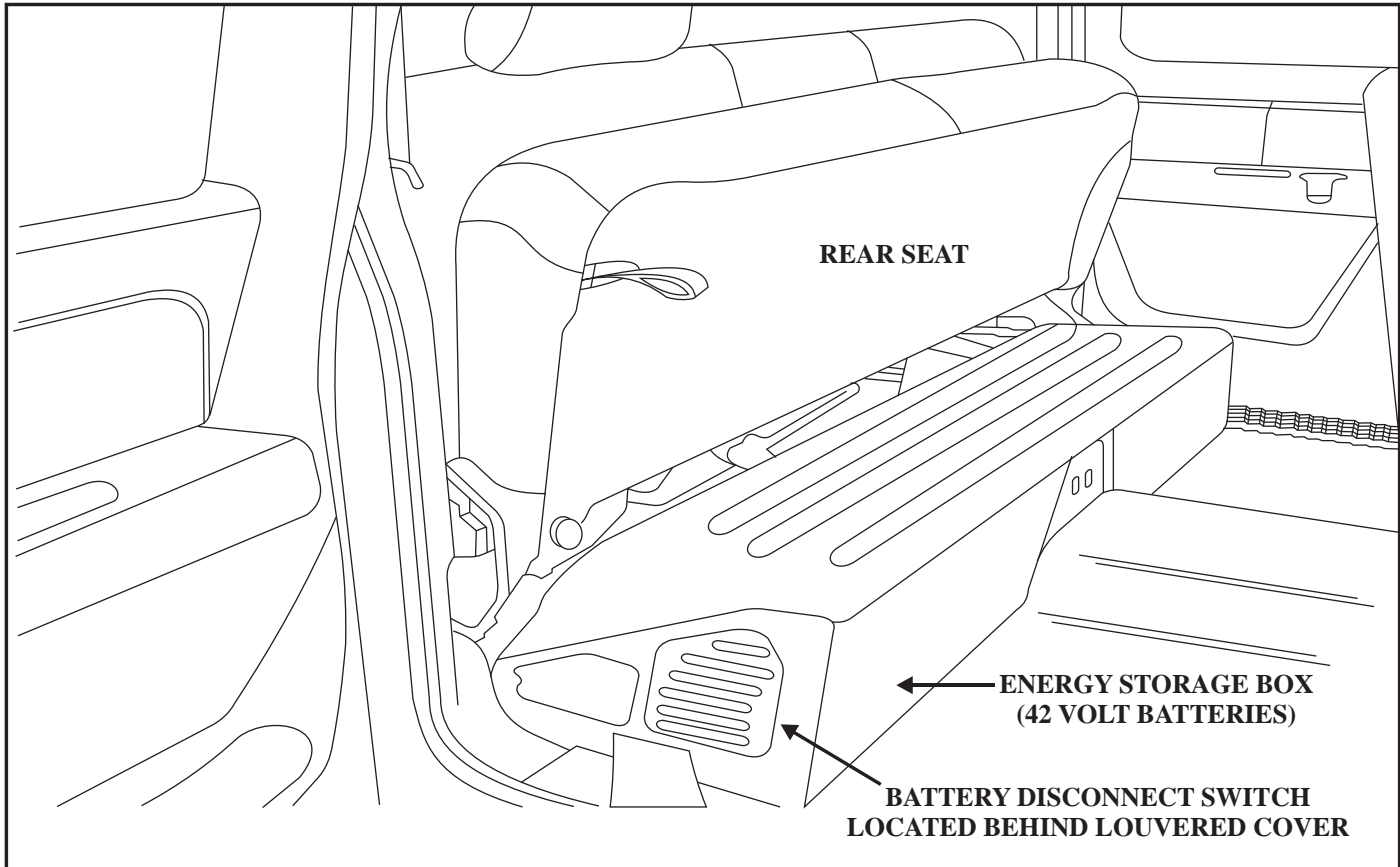

Figure 150
- Before starting any repairs that will put you in contact with any of the high voltage circuits, disable the high voltage system by turning the battery disconnect switch off, Refer to Figure 150) which is located at the passenger side of the battery pack under the rear seat, on the end, with a louvered cover over it. Disconnect the 3 phase connector from the Starter/Generator Control Module (SGCM) located in the engine bay, (Orange 3 cable connector).